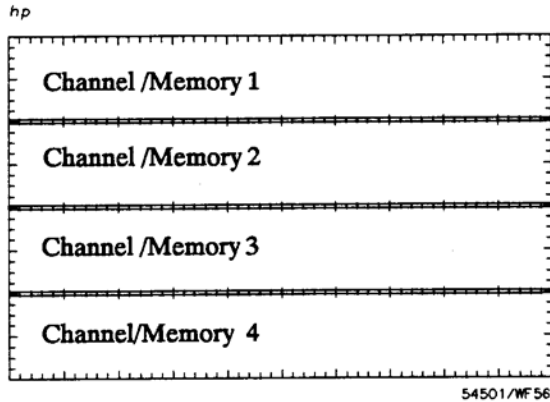

Figure 7-3. Quad Screen Display
- **4:** the display is divided into four equal screens with one waveform displayed in each screen (See Figure 7-3).